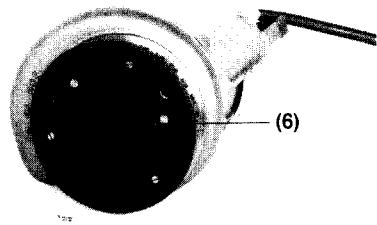

figure 2
Back off the screws (6) in the strainer plate (33) and removed it. See fig. 2.